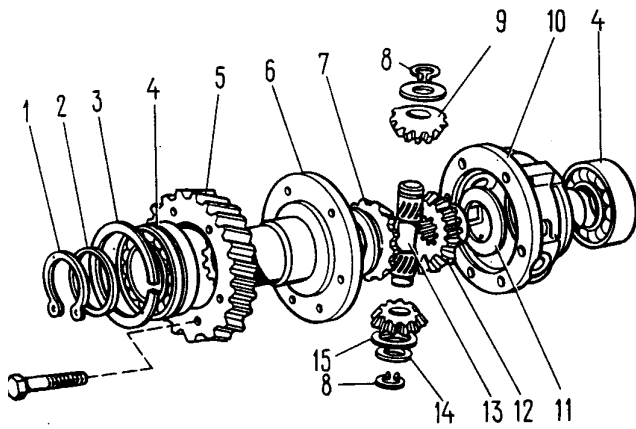

Fig. 3-45. Parts of Transfer Case Differential:
- remove locking 1 (Fig. 3-45) and spring washer 2 of the front bearing;
- remove lockrings 8 (Fig. 3-45) and spring washer 14, then drive out the pinion shaft and take off the differential pinions and the driving axle gears with supporting washers.
Remove spring washer 15 (Fig. 3-45) and make sure there is no radial displacement of lockrings 8 in the grooves of shaft 14. Replace the lockrings if they are found to be loosely fitted.